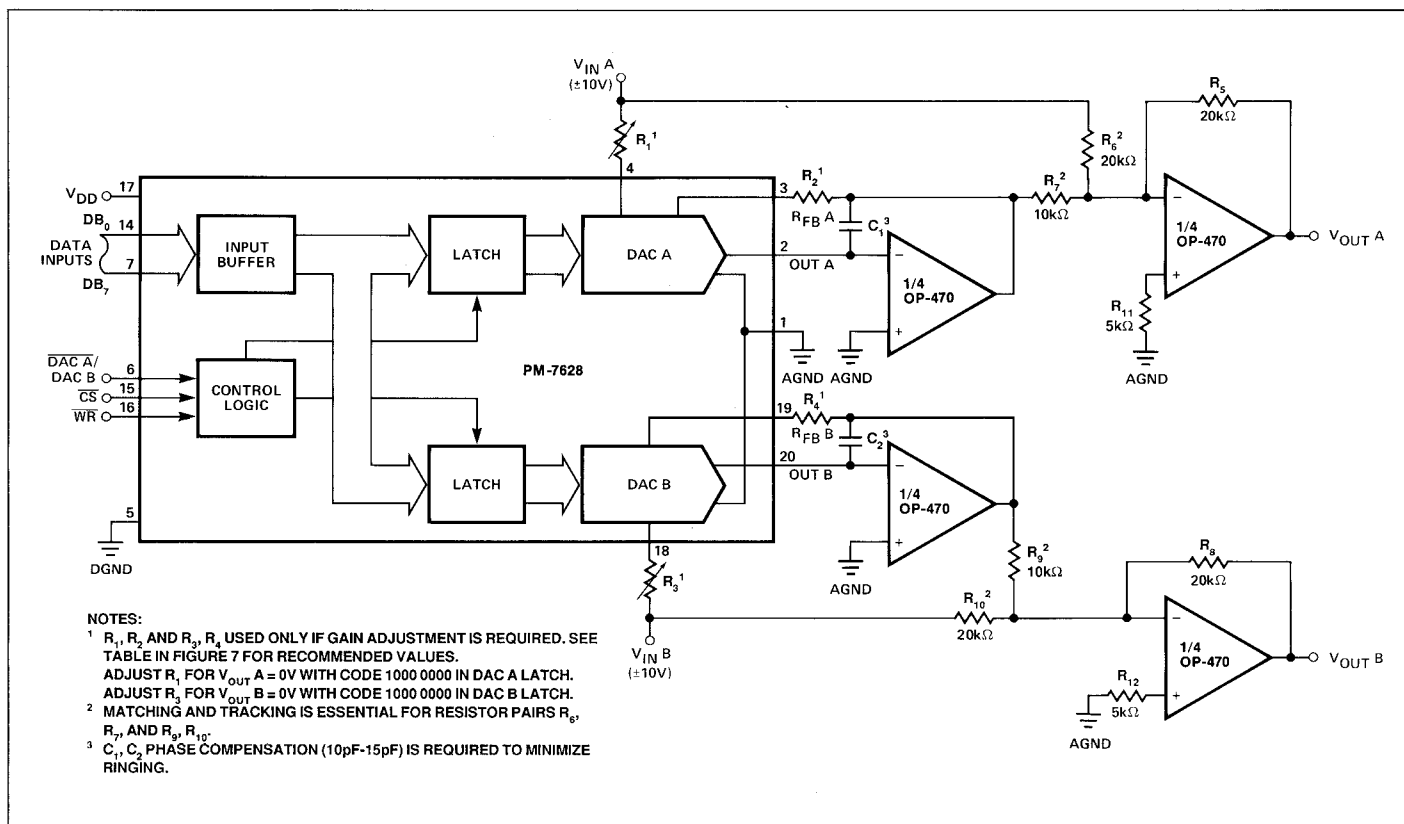

FIGURE 8: Dual DAC Bipolar Operation (4 Quadrant Multiplication). See Table 2.
For bipolar output operation, connect the PM-7628 as shown in Figure 8. This circuit configuration provides an offset current, derived from the reference, to enable the output op amp to swing in both polarities. The digital input coding becomes offset binary. Table 2 provides some example analog outputs for various digital inputs (D). The transfer equation for bipolar operation is $V_{OUT} = V_{IN} \times (D/128 - 1)$, where D is the decimal value of the data bit inputs DB₀ thru DB₇. This circuit provides full four-quadrant multiplication, able to accept $\pm$ polarities on both inputs as well as the circuit output.
TABLE 2: Bipolar (Offset Binary) Code Table. See Figure 8.